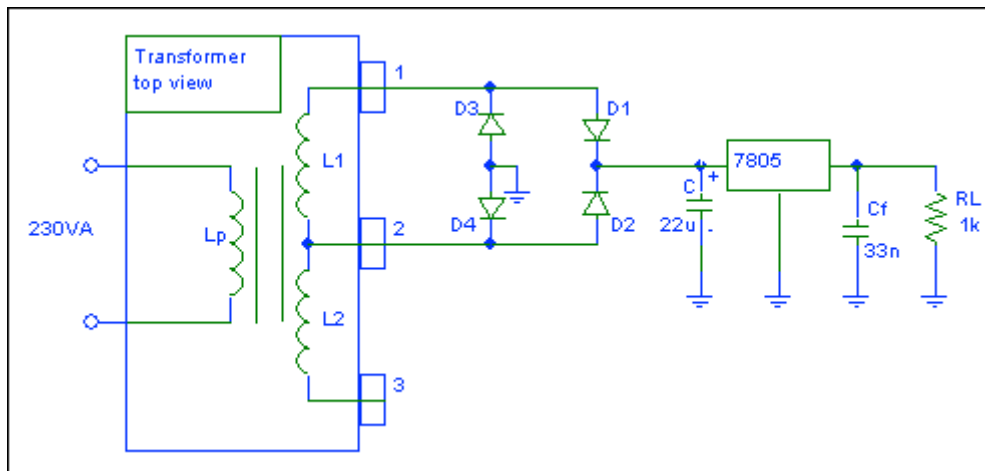

Fig. 7 Diode-bridge full-wave rectifier with LM78L05 voltage regulator.
1. Solder the circuit illustrated in fig. 7.